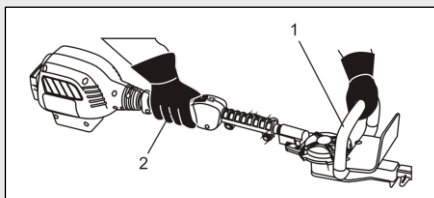

Fig. 8
Grasp the front assist handle (1) with one hand and the main handle (2) with the other hand (Fig. 8).